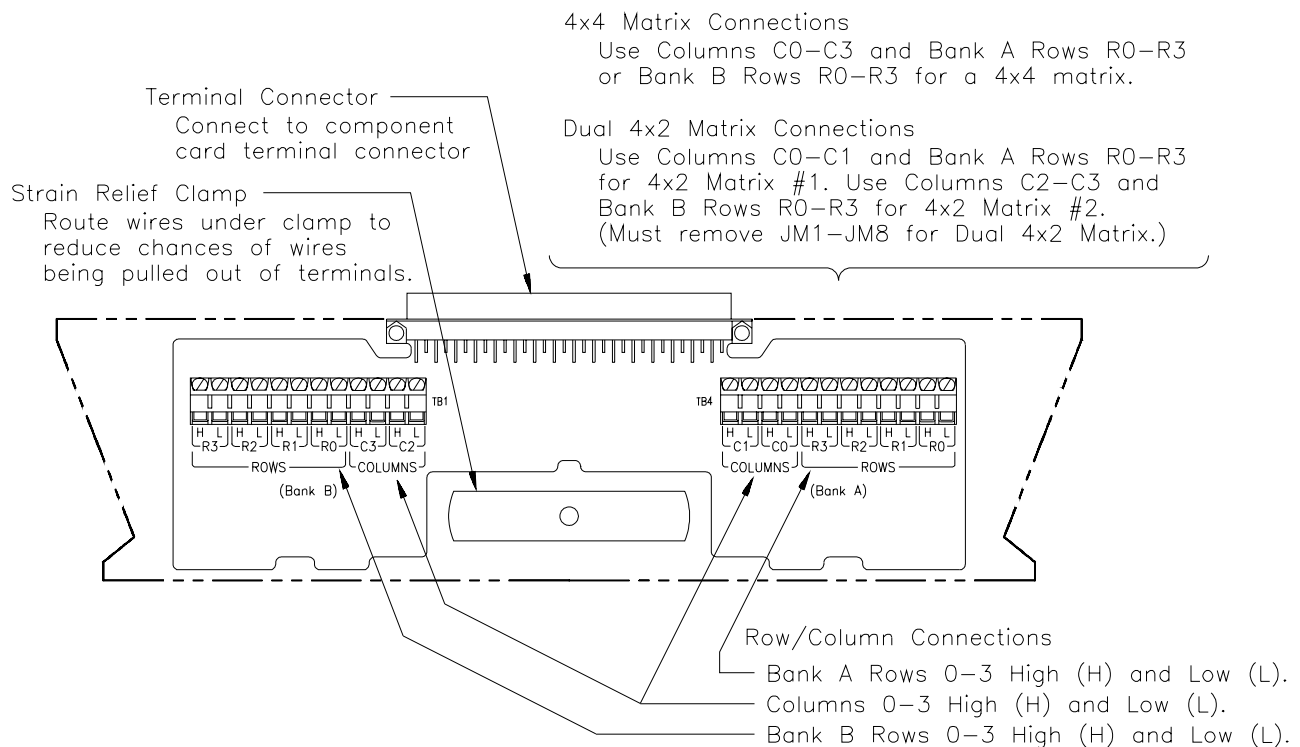

Figure 2-1. Relay Matrix Terminal Block
The relay matrix consists of a component card and a terminal block. User inputs to the matrix are to the HIGH (H) and LOW (L) terminal connectors on the terminal block. Figure 2-1 shows the terminal block features and Figure 2-2 shows how to connect user (field) wiring to the terminal block.